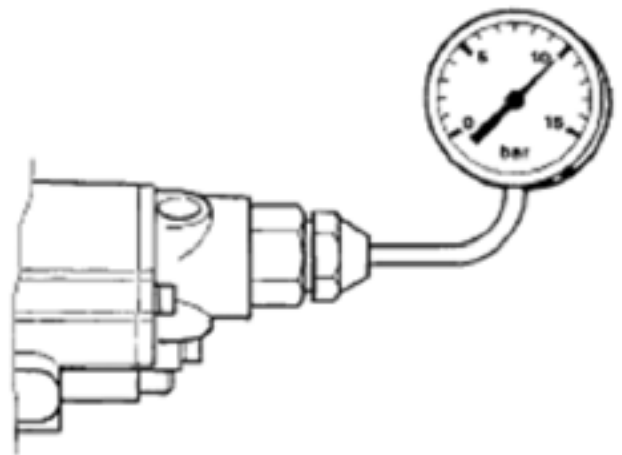

Fig. 609 Fuel pump pressure
- After approx. 15 sec. the pump pressure is displayed (see Fig. 609).